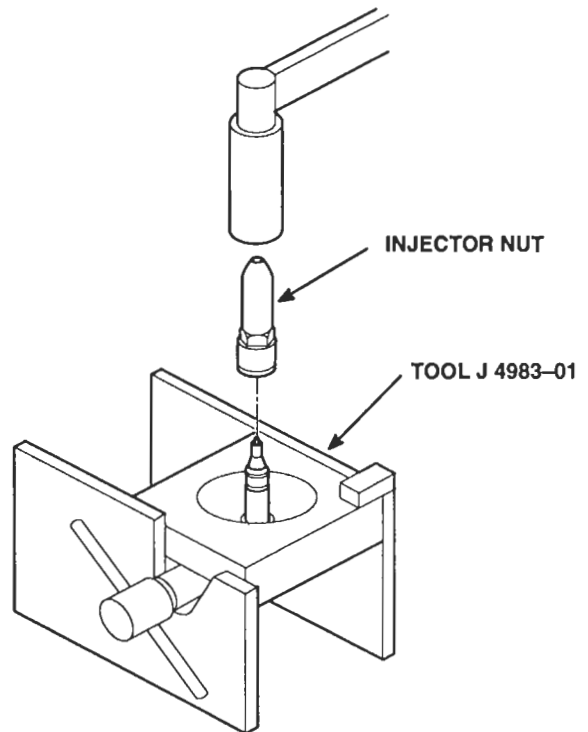

Figure 12. Removing Injector Nut
4. Using socket J 4983-01, loosen the nut on the injector body (Figure 12.)